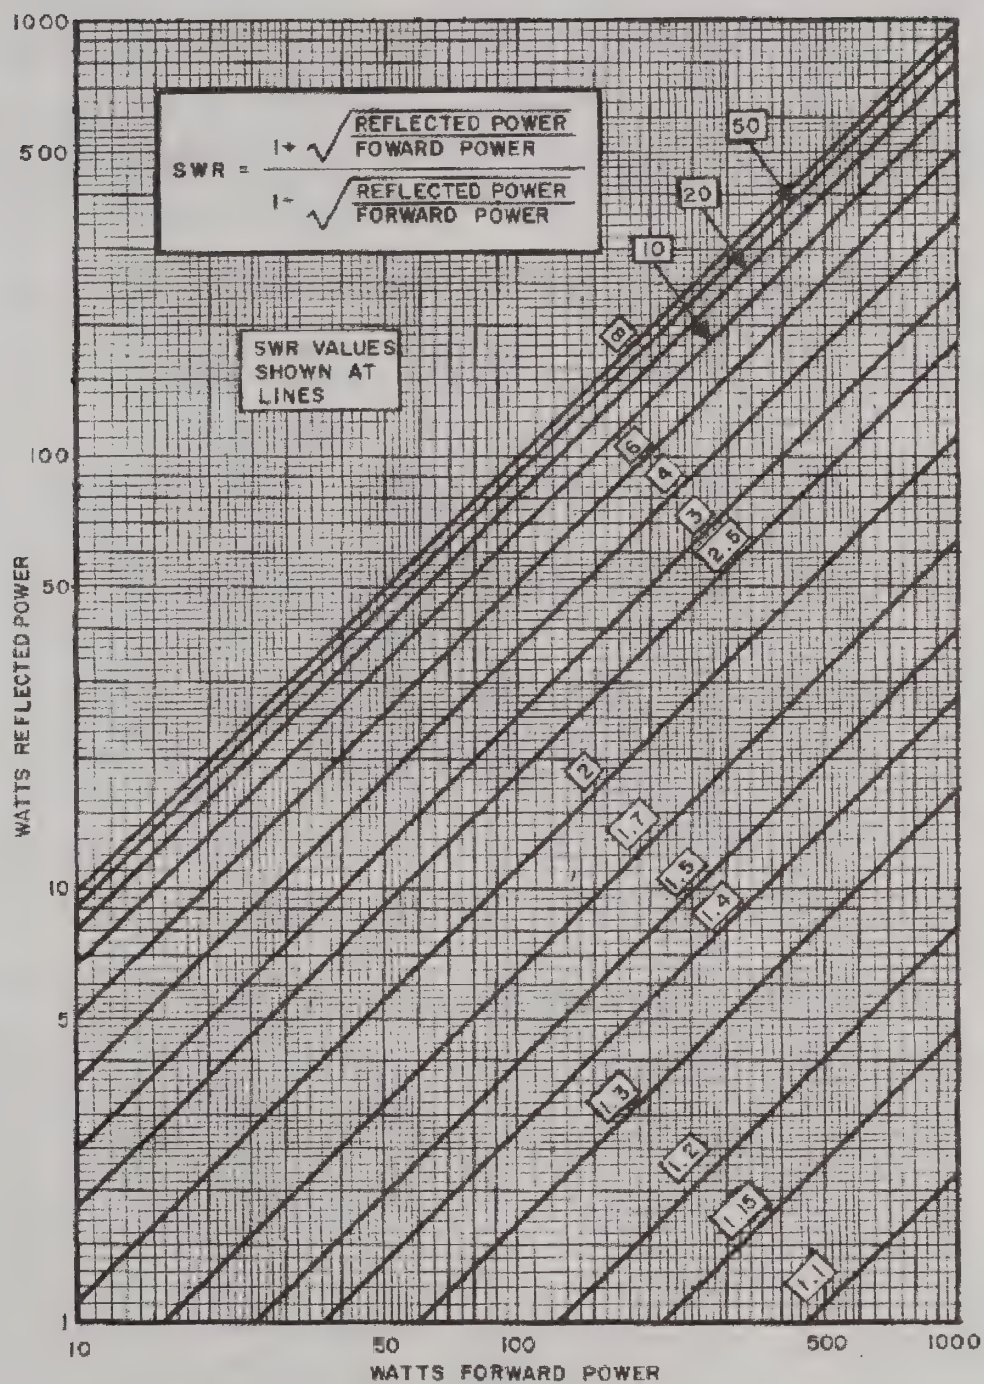

Figure 9. VSWR Graph for Forward Vs Reflected Power
- The forward and reflected power readings, in conjunction with the chart of figure 9, can be used